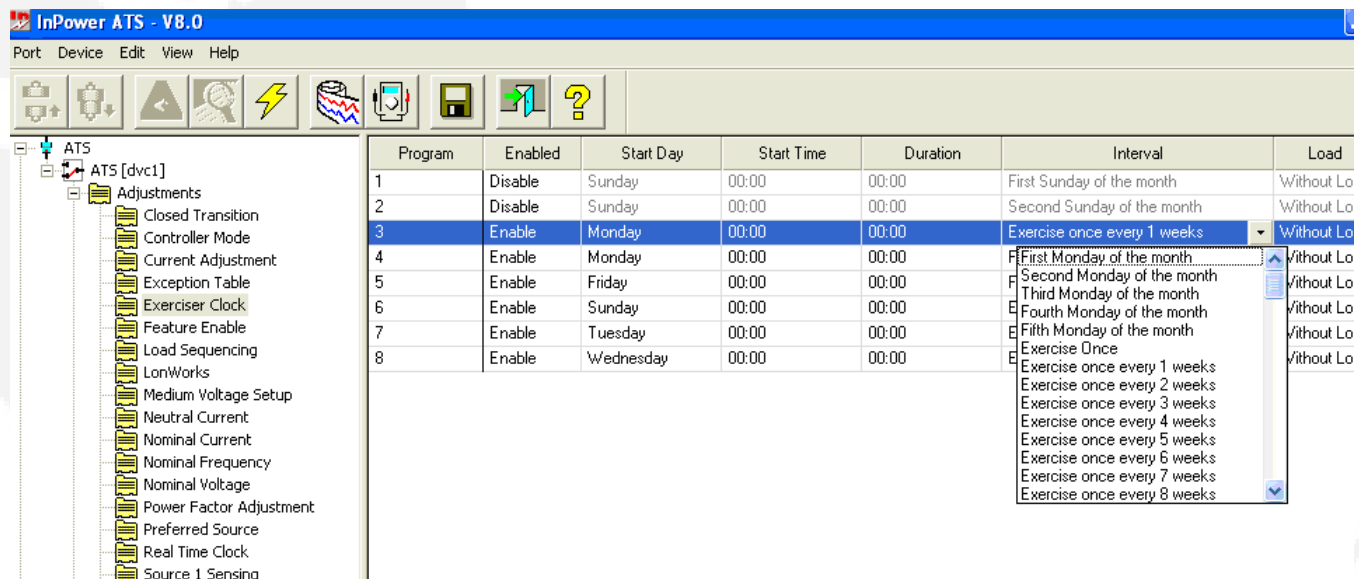

FIGURE 105. ADJUSTMENTS - EXERCISER CLOCK
**Example:** In this example, InPower is used to set an exercise time and duration. The ATS exercise program, shown in Figure 105, is set to begin every Monday evening at 22:00 hours and run for one hour, with load.